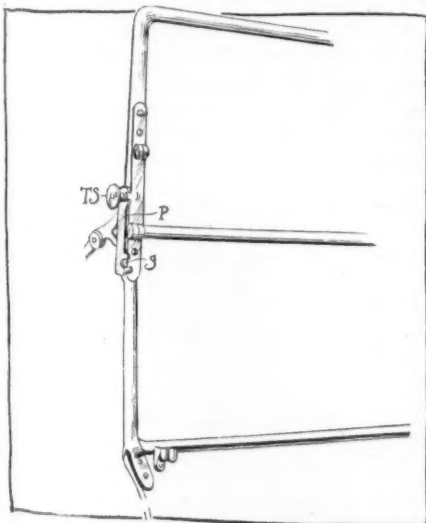

FIG. 25—DIXIE WINDSHIELD
**Chicago Wind Shield Co.**—The 1909 addition to this concern's line of wind shields is its Dixie, made throughout with brass tubing, which contracts significantly with the previous frames used on this company's shields. The corners are reinforced with corner plates and the shield is of the hinged type, being held in the up position, Fig. 25, by a thumbscrew TS, entering the upper slot of a bracket P on the end of the frame. When in the folded position this same thumbscrew entering the lower slot S locks the frame securely. The company also has a new zigzag road-